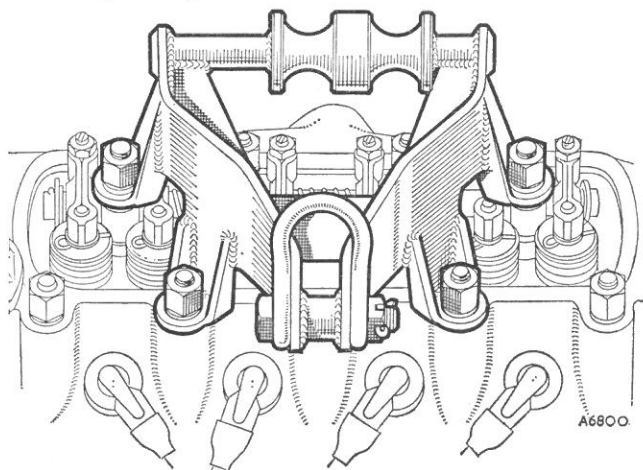

Fig. Aa.5
- (7) Disconnect all electrical connections from the engine.
- (8) Remove the distributor cap.
- (9) Remove the air cleaner as in Section Da.1.
- (10) Remove the carburettor as in Section Da.2.
- (11) Disconnect the speedometer cable from the rear of the instrument.
- (12) Disconnect the oil pressure gauge hose.
- (13) Disconnect and remove the horn.
- (14) Disconnect the exhaust pipe from the manifold and secure the pipe against the bulkhead.
- (15) Disconnect the tie-rod from the cylinder block and swing the rod away from the engine.
- (16) Remove the rocker cover nuts and fit the engine lifting bracket (Fig. Aa.5)
- (17) Remove the set screws securing each engine mounting to the sub-frame.
- (18) Lift the engine sufficiently to release the drive shafts from the driving flanges, and remove the engine/transmission unit from the car.